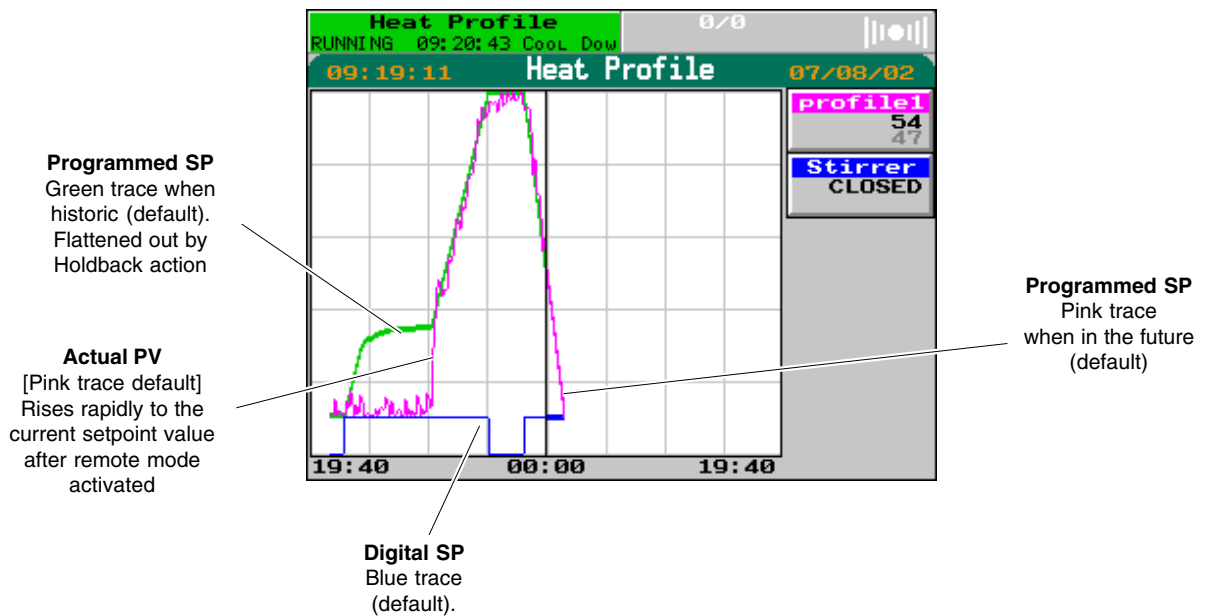

Figure 3-8 Preplot view of ‘Heat Profile’ (Cool Down segment)
- To put this right, press the **Menu** softkey, then **SYSTEM, APPLN, FB MGR** to access the **FB Manager** window. Press the ‘pid’ block box to see the PID block parameters, scroll down to the **SelMode** field, press the yellow value pop up the **SelMode** menu. Set **SelRem** to TRUE to select remote mode and press return. Repeat for **EnaRem** to enable remote mode. Finally, press the program pane, then **PRE-PLOT**, and watch the progress. PV now shoots up rapidly to follow the programmed SP, which is released from holdback mode and resumes its intended path — see Figure 3-8.